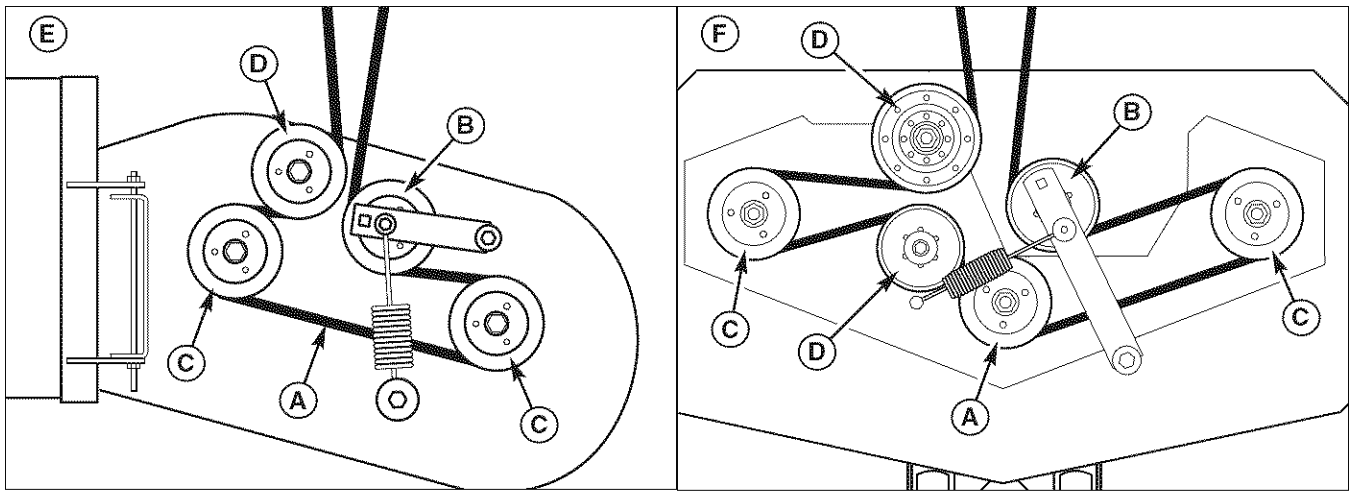

Figure 35. Mower Deck Belt Routing
4. Slide the mower drive belt over the edge of the stationary idler pulley (C). Carefully release the tension on the breaker bar.
5. Remove the old belt and replace with a new one. Make sure the V-side of the belt runs in the pulley grooves (Figure 35).